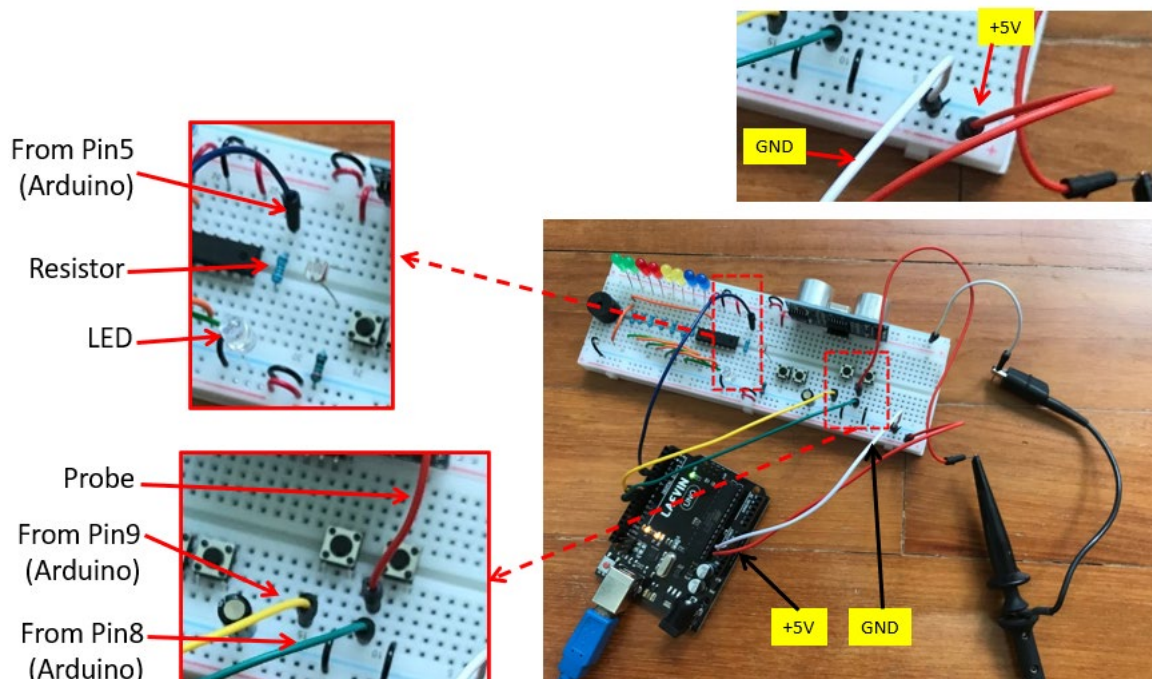

Fig 9: Hardware connections
- See Fig 9 for the connections. **Note that if there are no separate power supply to the breadboard, you need to draw the power from Arduino Board's +5V. The photo in Fig.9 shows the +5V and Ground headers of Arduino board connected to the breadboard (the red and white wire from Arduino board).**
- The photo in **Fig.9** also shows how the oscilloscope probe needs to be connected to detect the voltage level at input pin of the processor. Crocodile clip connects to the ground and Probe tip connects to the target signal.